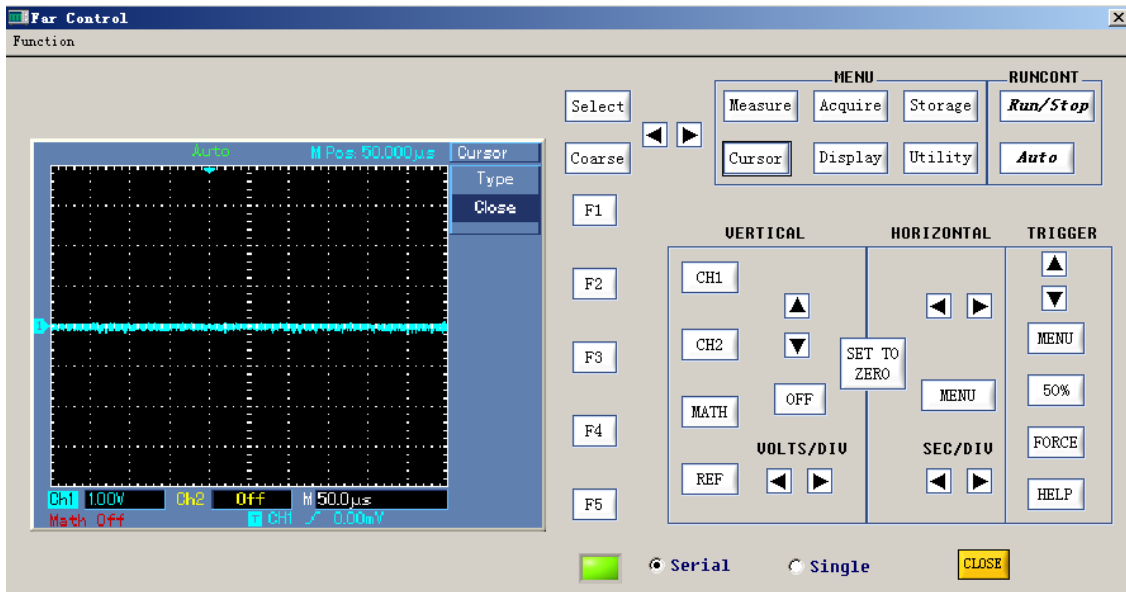

Fig 3-4
5. Enter the “transmission interface” and click the [Transmission Interface] button. The indicator light comes ON. Transmission interface mode is now enabled, as shows in Fig 3-4.
6. On the virtual control panel in Fig 3-4, you can operate your oscilloscope with different buttons as instructed by the oscilloscope user manual. Select “Serial” on the above screen so the oscilloscope can transmit the oscilloscope screen to the virtual display panel in real time. When “Single” is selected, the virtual display panel will only show the first transmission interface.